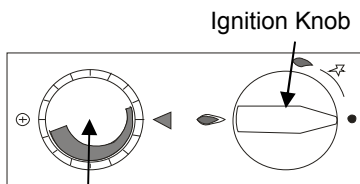
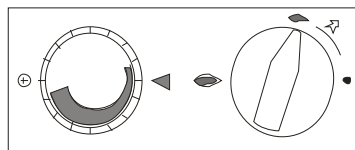

Figure 3-Off Position
Figure 4- Pilot Burner Only
1. Whilst pushing the IGNITION KNOB in (see **Figure 3**), turn it anticlockwise to the pilot flame position as shown in **Figure 4**. During this process, the spark ignition will have operated and lit the pilot flame. On lighting the pilot flame continue to depress the ignition knob for a further 15 - 20 seconds then slowly release. The pilot flame should stay alight. If the flame goes out, repeat the procedure above to establish the pilot. Due to safety and the efficient way the fire works, it is not unusual for the pilot to stay alight only after the second or even third attempt.
6. To switch off the main burner turn the IGNITION KNOB to the 'Pilot burner only Position' as shown in **Figure 4**. The appliance may be left in this standby mode if desired.